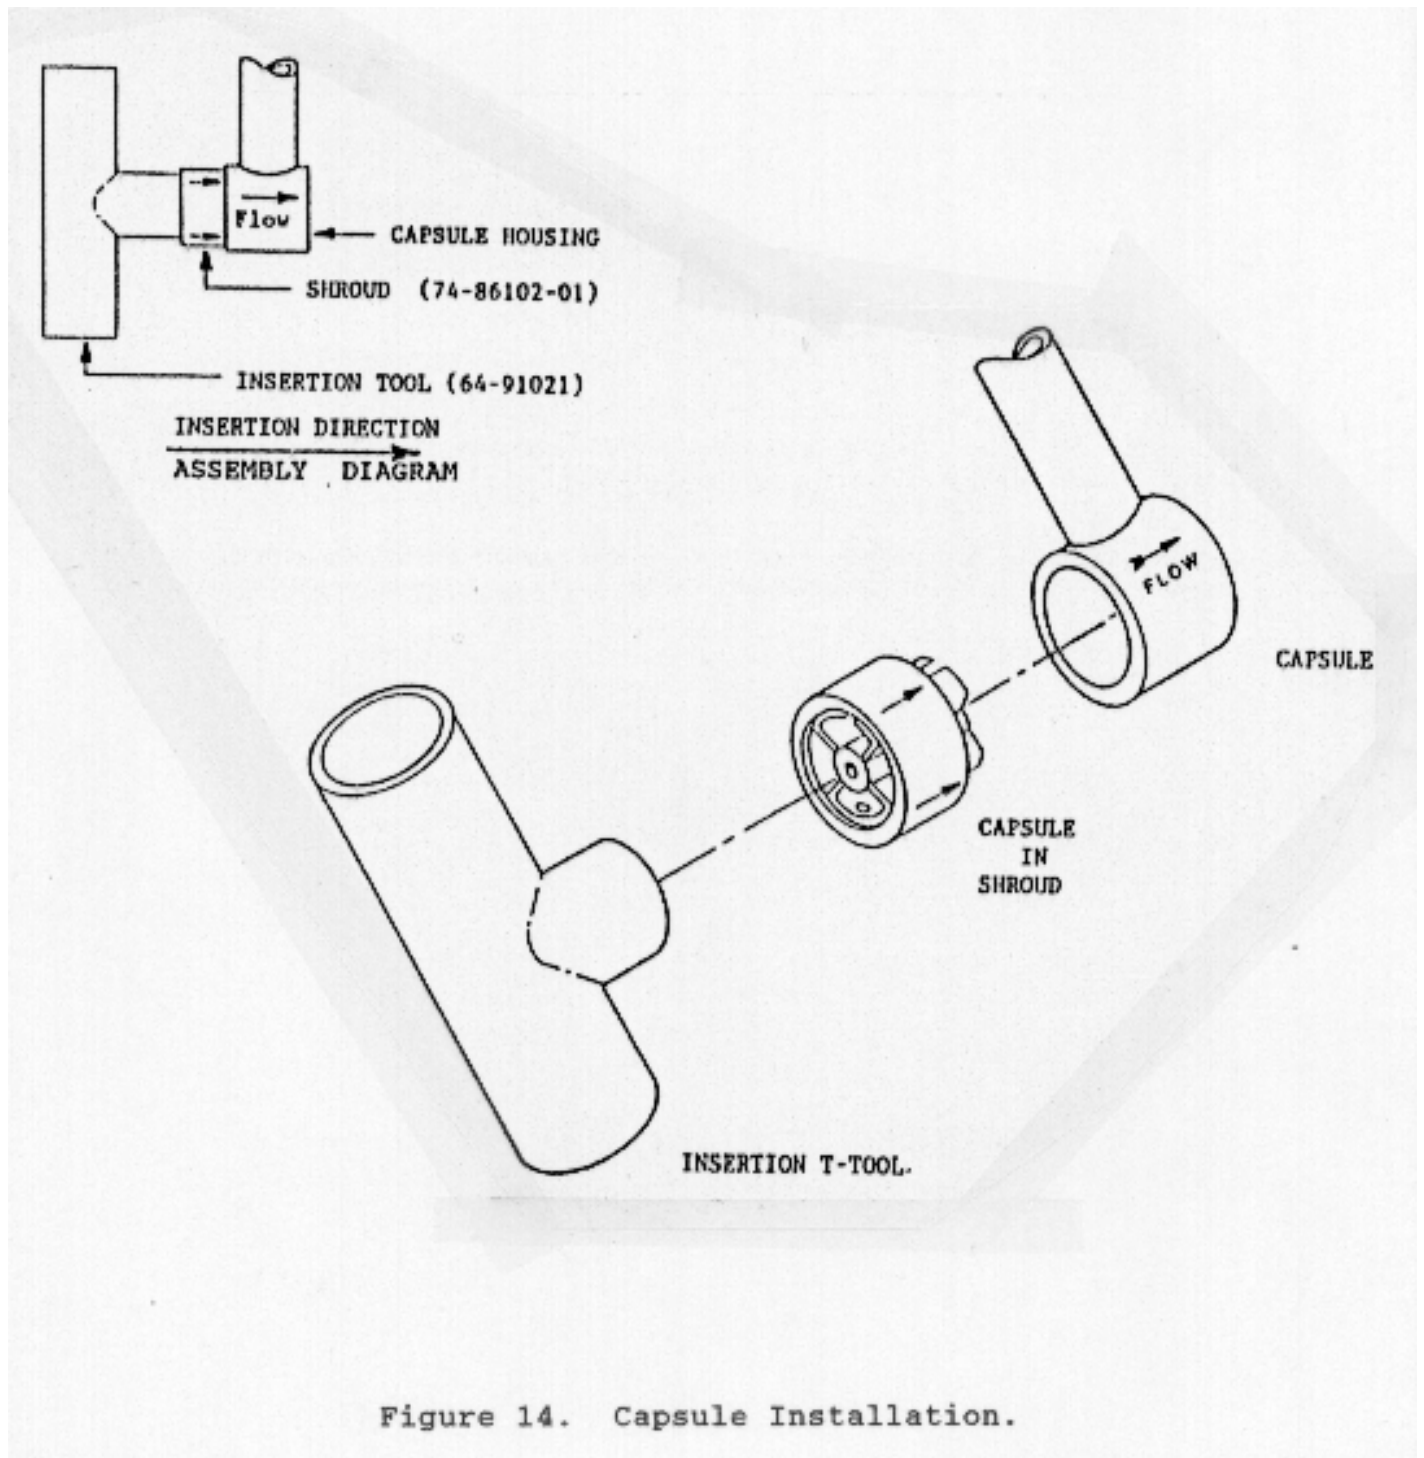

Figure 14. Capsule Installation.
2. Remove the cover (smaller of two (2) pieces of the capsule container).
6. Push the shroud/capsule combination, until the shroud rests on the capsule housing. (See Figure 14 for Capsule Installation).
8. Check for proper alignment of holes in the capsule to the mounting holes of the capsule housing. If required, carefully align without touching the rotor in any way. Fasten the two (2) screws.